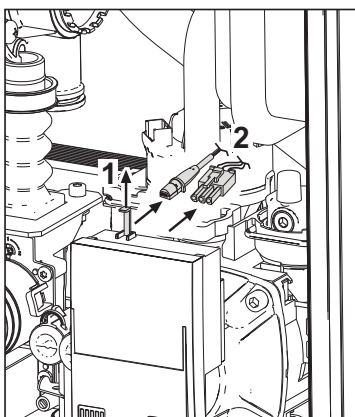

fig. 37
- Electrically disconnect the circulating pump, releasing the connections by raising the detail "1" of fig. 37.